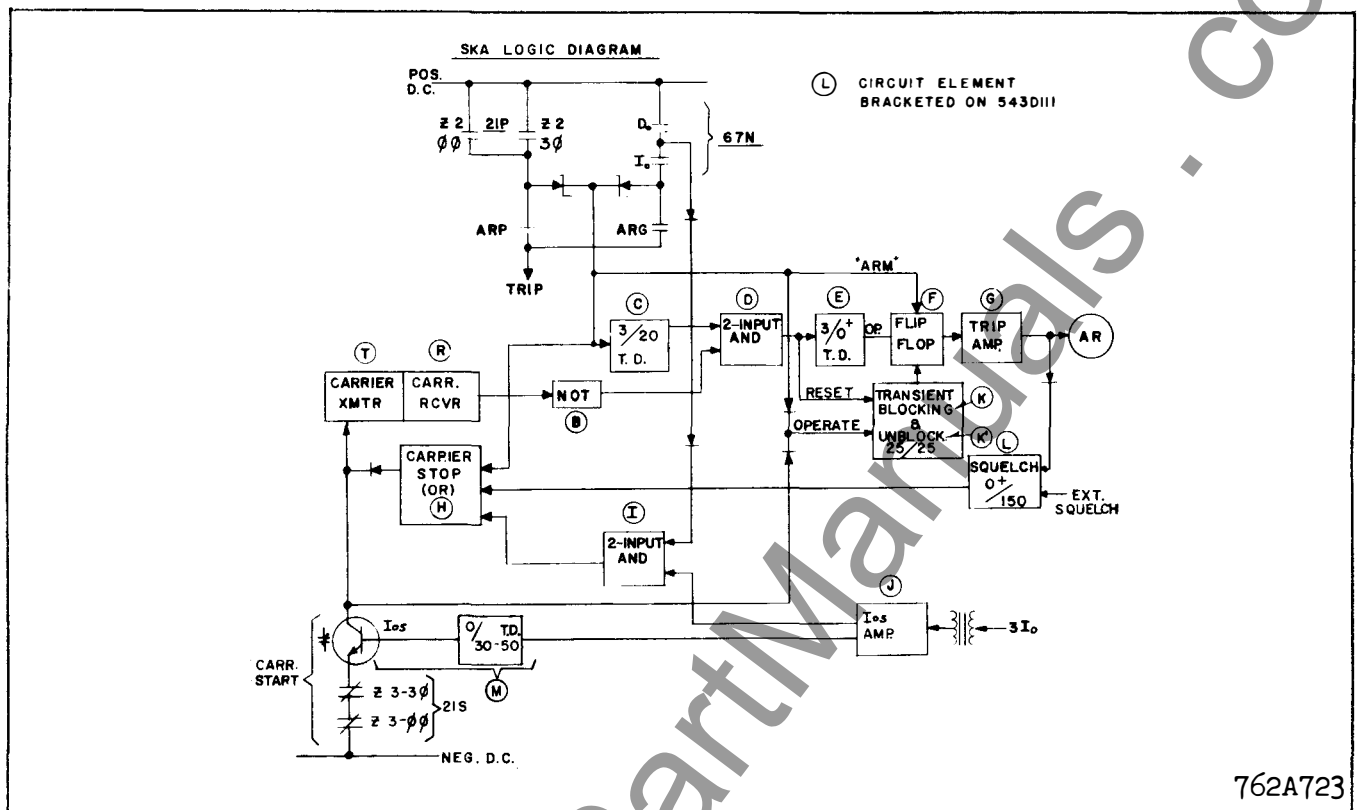

Fig. 3. Logic Diagram for the Type SKA Relay.
The operation of the SKA relay during internal and external faults can best be understood by reference to Fig. 3 which is a circuit logic diagram. In Fig. 3, the lettered logic blocks serve the following functions:
complete detailed relay circuit is shown in Fig. 5. The components enclosed by the heavy broken lines in this diagram are mounted on the two printed circuit boards of the SKA relay. The operation of the individual circuit components is explained in the following paragraphs. The letters identifying the logic elements in Fig. 3 are also used to identify the corresponding portion of the circuit in Fig. 5.
detail in the previous section (M) and by dotted lines to the right of terminals 8, 9, 19, and 18 of the SKA relay (Fig. 3), so that when it conducts it stops the transmission of carrier. This is the carrier stop circuit section H. The combination of operation of the directional unit  $D_0$  in the carrier ground relay 67N and the presence of ground fault current comprises one condition for stopping carrier. This combination is necessary to handle fault current values below the pickup of the  $I_0$  tripping unit of the 67N relay.